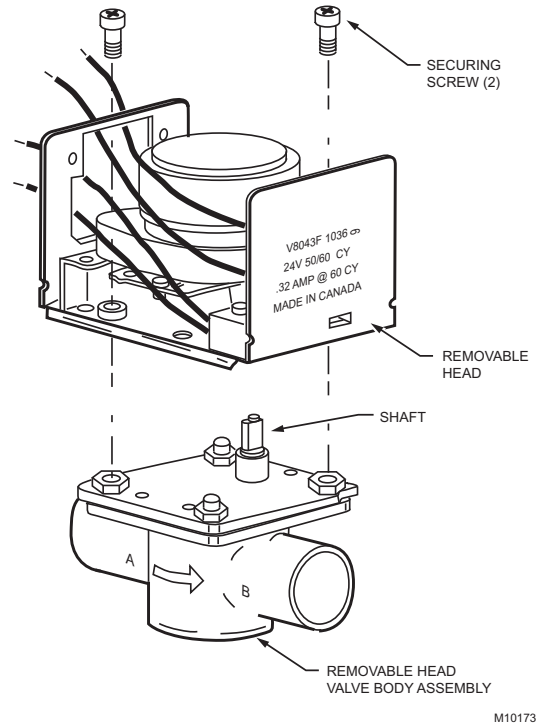

Fig. 12. Install new powerhead.
6. Install new powerhead (see Fig. 12)
- d. Remove the two screws securing the powerhead to the valve body (Fig. 12).
4. Install the new power head (see Fig. 12):